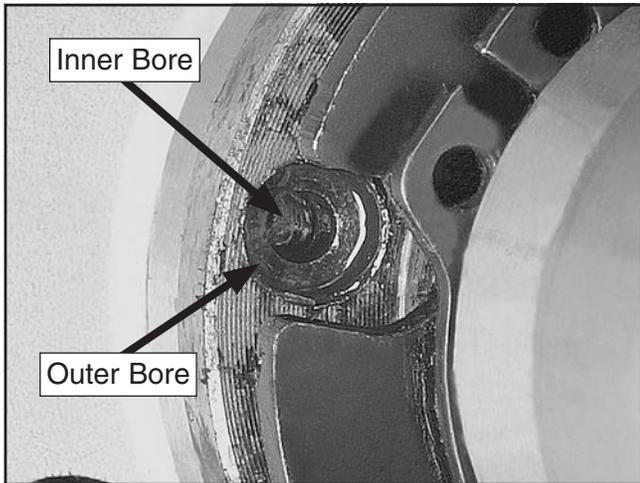

Figure 131. Shear pin bores aligned.
7. Use the magnet to remove the shear pin head, then rotate the lathe spindle to line up the inner and outer bores, as shown in **Figure 131**. Next, use the magnet to remove the other half of the broken shear pin when it becomes visible.